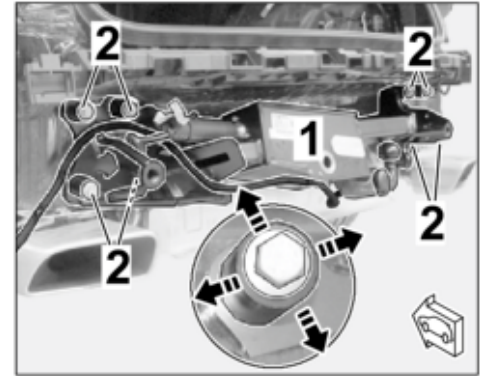

Figure 6
⇒ Figure 6
2.1.2 Align bolt guides for the trailer hitch (8 x) symmetrically with respect to the 8 bolt heads M12 x 1.5 x 90. ⇒ Figure 6 -Magnifier-